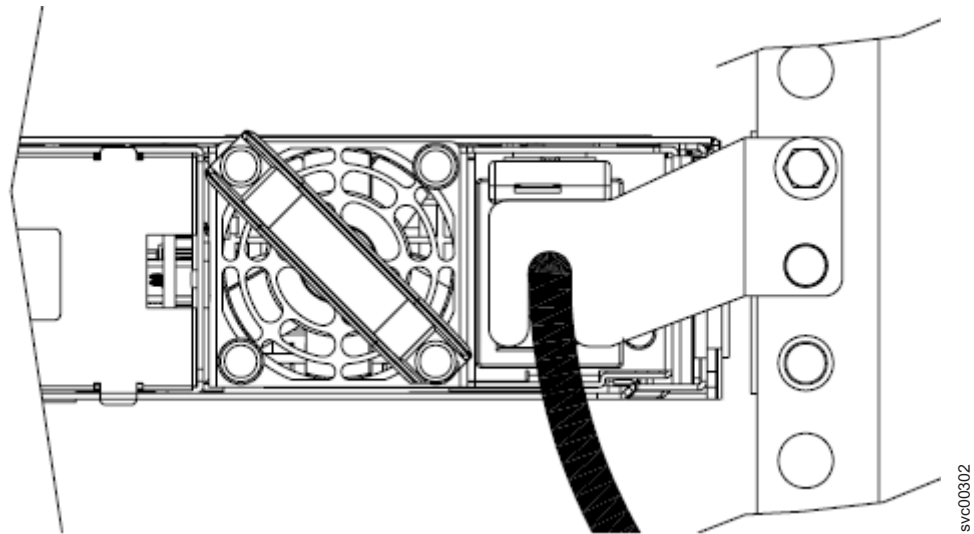

Figure 67. The SAN Volume Controller 2145-8G4 with cable retention bracket option B attached
1. Remove the securing bolt from the node side rail (shown in Figure 67) next to the power supply.
2. At the back of the cabinet, remove the securing bolt from the node side rail next to the power supply, as shown in Figure 67.